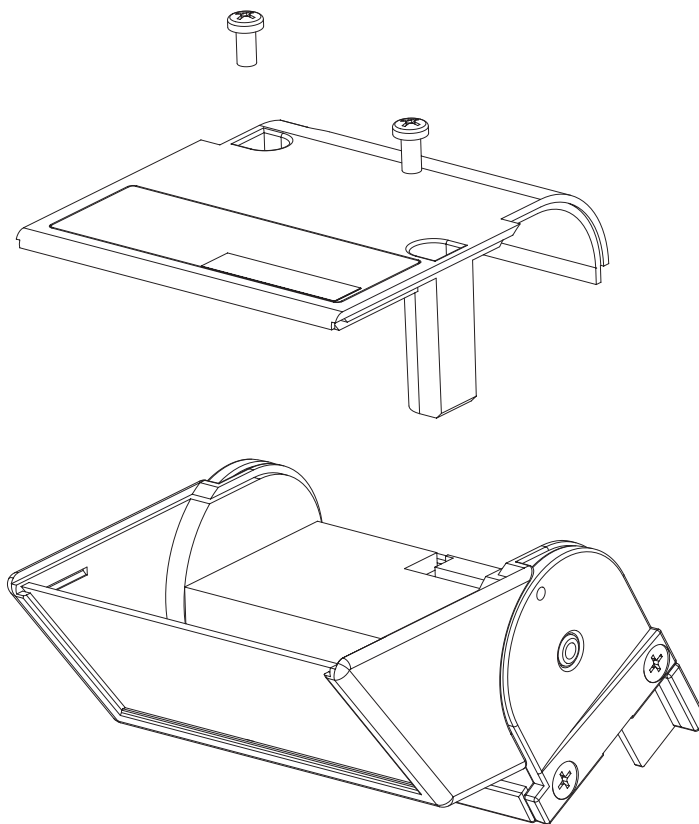

Figure 27. Removing the scanner window
4. Loosen the screw (**B** in Figure 27 on page 46) securing the scanner.
1. See Figure 27. Remove the two Phillips-head scanner cover screws.